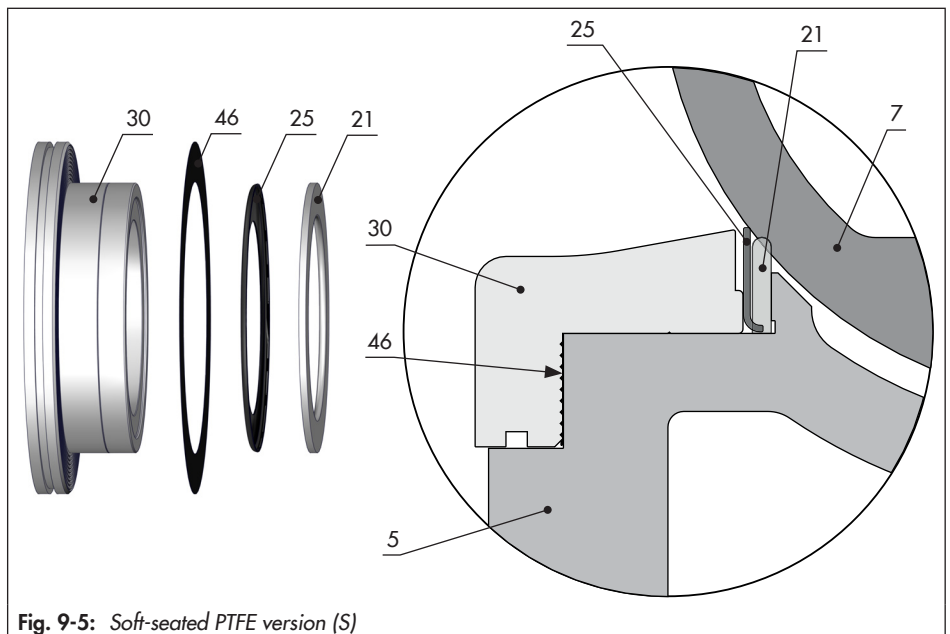

Fig. 9-5: Soft-seated PTFE version (S)
See Fig. 9-5
1. Remove the support ring (25) and seat ring (21).
4. Insert a new seat (21) into the body.
5. Insert the support ring (25). Make sure it is properly aligned (see Fig. 9-5).
6. Mount the retainer seal (46) on the retainer (30).
7. Insert the retainer (30) with retainer seal (46) into the valve body and fasten using retaining screws (70) and washers (80). Observe tightening torques.